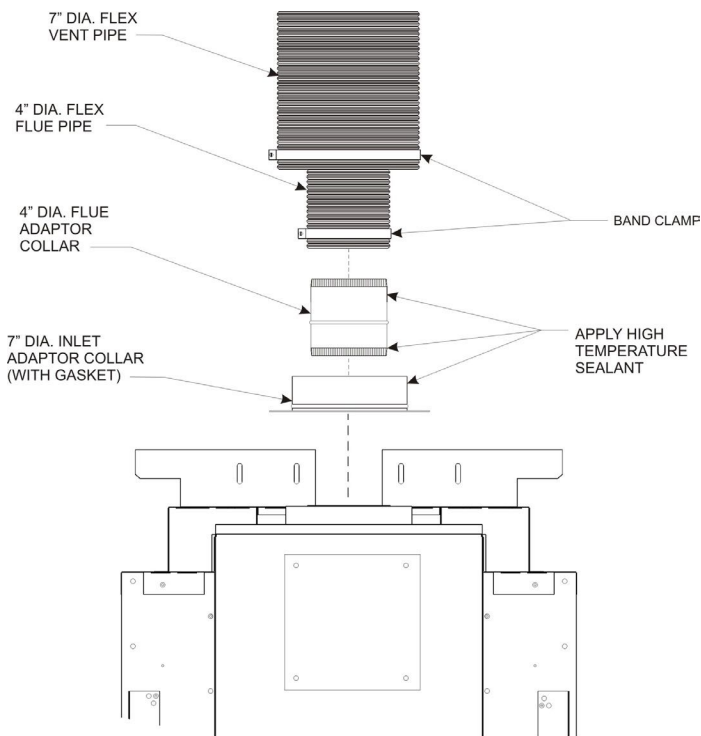

Figure 26
17. To attach the vent connections at the fireplace, be sure the 7" diameter adapter collar has been installed per step 3. Apply a bead of silicone sealant to the 4" diameter flex connector, then slide the flex pipe adapter collar into the fireplace flue collar and secure by installing a minimum of two (2) screws through the flue collar and into the adapter. **See Figure 26.**
18. Apply sealant to the 7" diameter adapter collar, slide outer flex vent over the collar, then secure with a 7" diameter band clamp. **See Figure 26.**